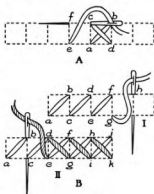

FIGURE 34
*Cross Stitch* (Figure 34). — The design is stamped directly on the material or is worked on a coarse-weave canvas where the squares are counted to make the design. (In the latter case, after the design is completed, the threads of the canvas are